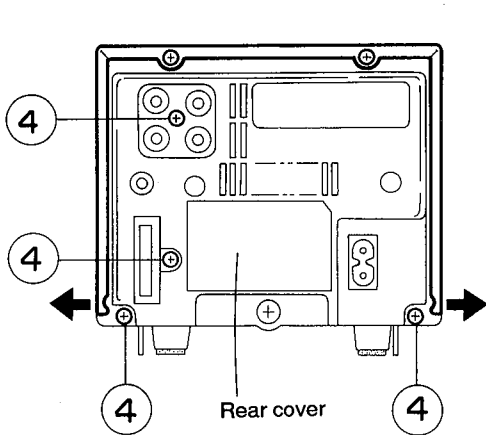

Fig. 5-7
**Removing the rear cover** (See Figs. 5-7 and 5-8)
1. From the back of the body, remove the four screws ④ retaining the rear cover.
2. Disengage the two engagements ⑥ on both the right and left sides of the rear cover and chassis.